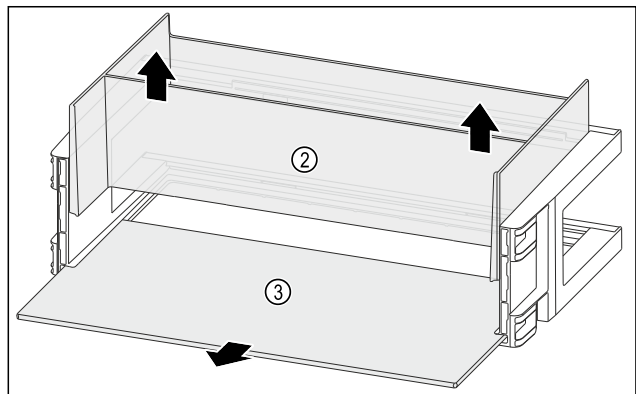

Fig. 111
- ▶ Remove the organiser Fig. 111 (2) upwards.
- ▶ Remove the shelf Fig. 111 (3).